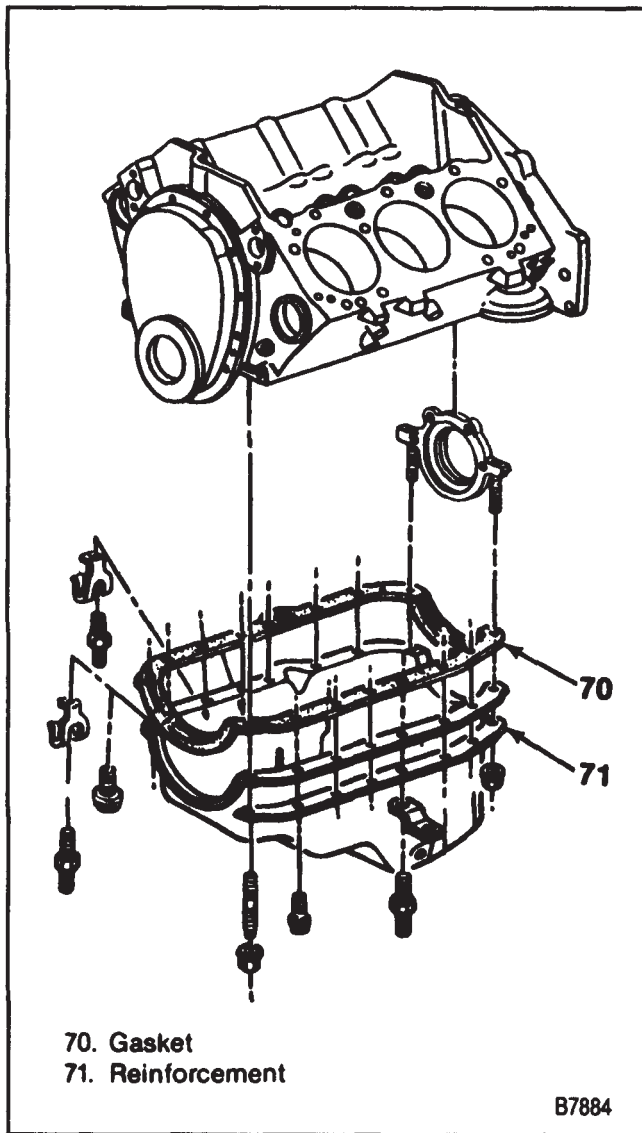

Figure 26—Oil Pan
#### Remove or Disconnect (Figure 26)
#### Install or Connect (Figure 26)
**←→ Remove or Disconnect (Figure 26)**
**→← Install or Connect (Figure 26)**